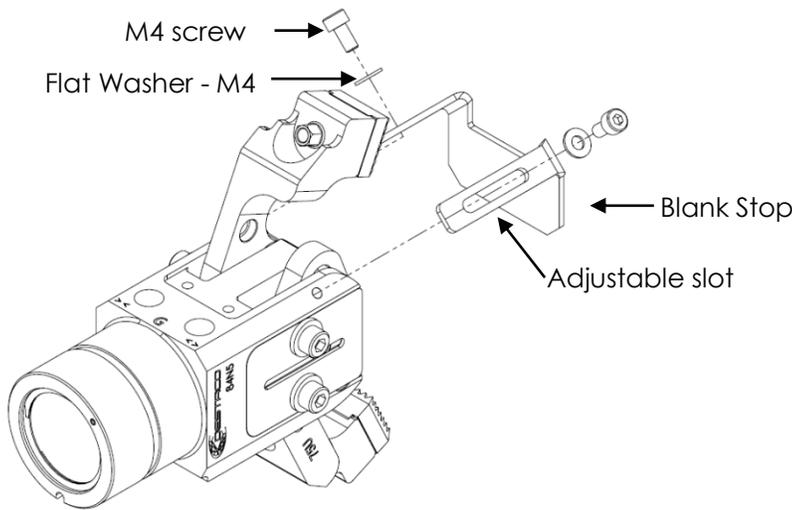

Fig.4
2. Remove the existing Blank Stop by unscrewing the M4 screw using 3mm Allen key (see Fig.4).